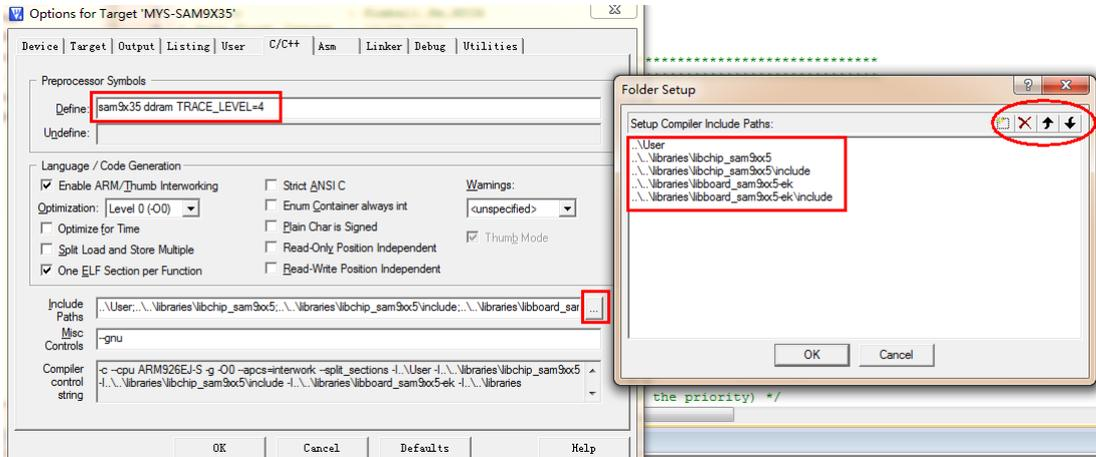

Figure 3-6
(6) C/C++ configuration, user can add or delete compile files path. Refer to figure 3-6: